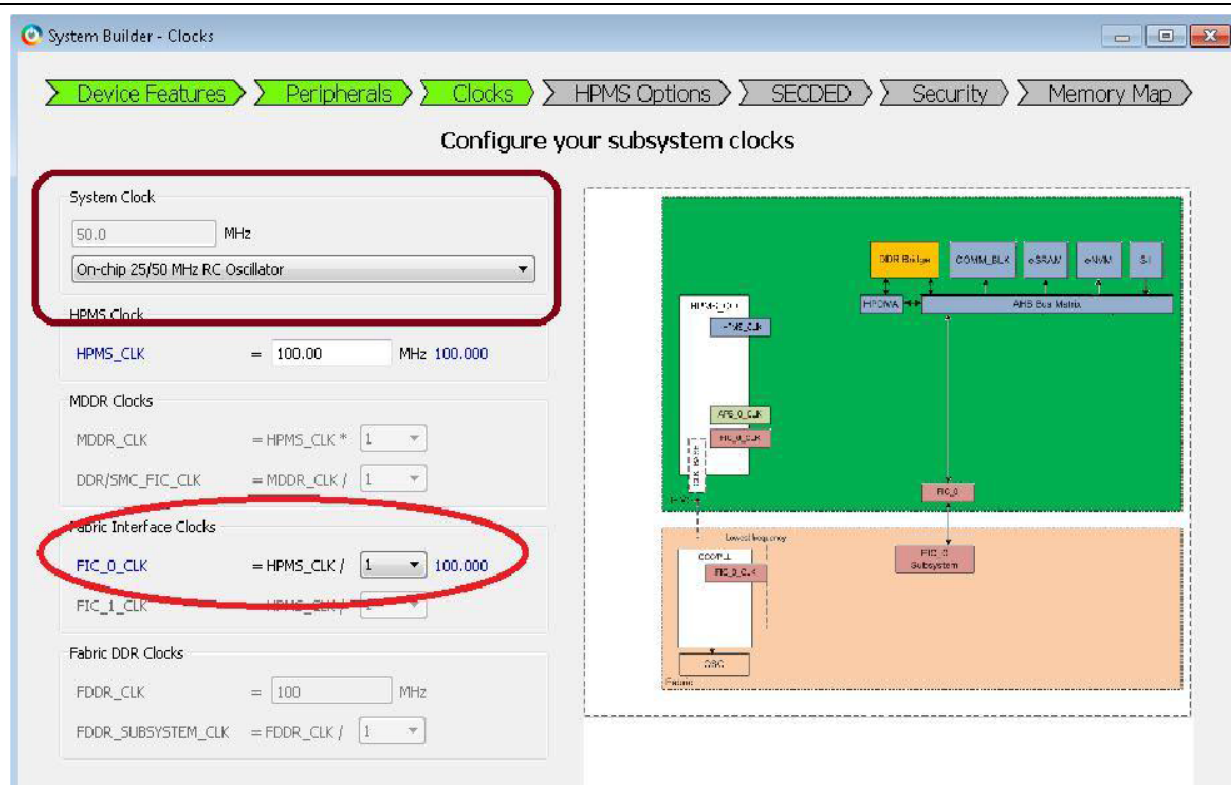

Figure 7 System Builder – Clocks
9. Click **Next**. This opens the System Builder – Clocks tab, select **On-chip 25/50 Mhz RC Oscillator** as the System clock and **FIC_0_CLK = HPMS/1= 100Mhz**, as shown in Figure 7.